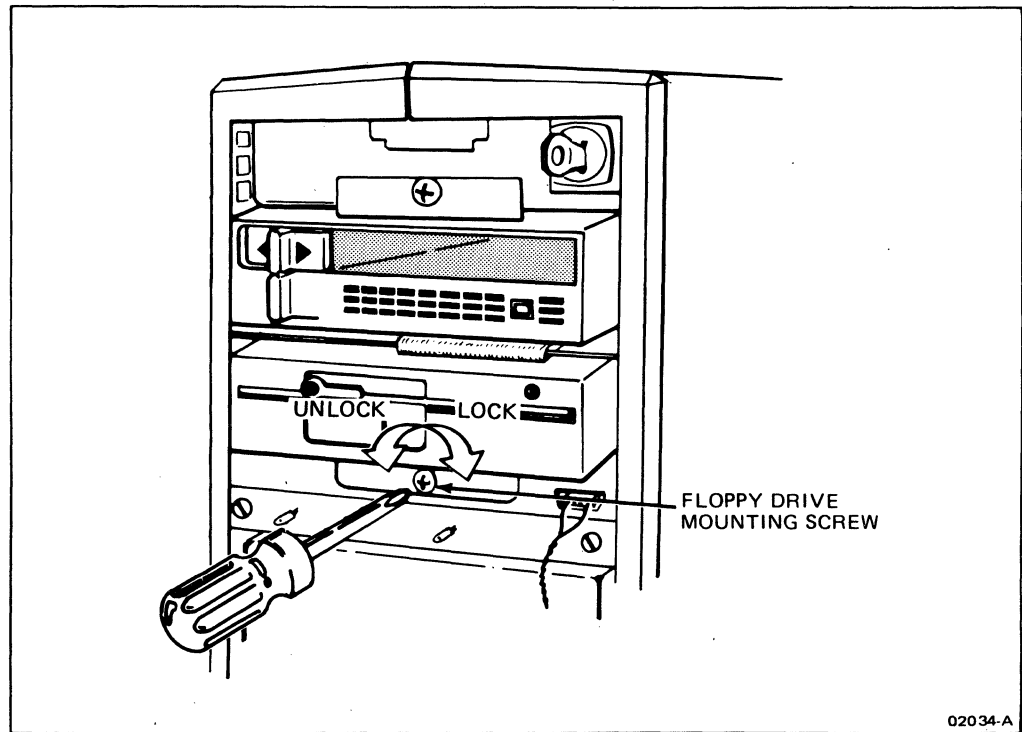

Figure 6-5. Locking/Unlocking the Floppy Drive Mounting Screw
Perform the following procedure to remove the floppy disk drive (see Figures 6-5 and 6-6):
3. Use a #2 Phillips screwdriver to turn the screw on the drive mounting bracket a 1/4-turn counterclockwise as shown in Figure 6-5.
Perform the following procedure to replace the floppy disk drive (see Figures 6-5 and 6-6):
8. Use a #2 Phillips screwdriver to press in and turn the locking screw a 1/4-turn clockwise as shown in Figure 6-5.